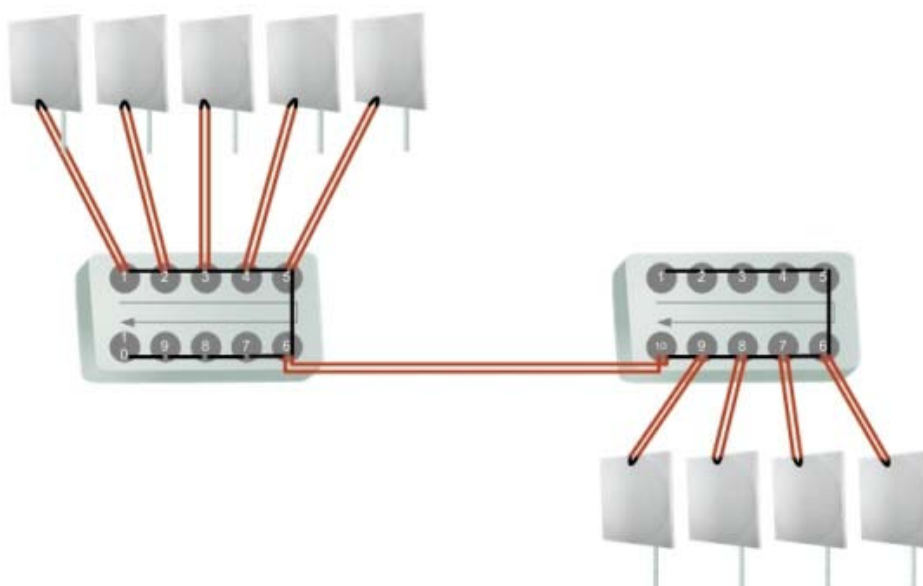

Figure 12-4: Cascading two HSS units
2. The next available SYNC port of the first HSS unit should be connected to SYNC 10 of the second HSS unit as shown in Figure 12-4. In the illustration, the next available port on the first HSS unit is SYNC 6.
3. The second HSS unit may be filled out with up to nine more ODUs in **reverse** order. That is, connect SYNC 9, SYNC 8, SYNC 7... as shown in Figure 12-4.
4. To add a further HSS unit: Connect the next available SYNC port from the second HSS unit in **descending order** (SYNC 5 in Figure 12-4) to SYNC 1 of the third HSS unit.
#### Two cascaded HSS units as shown in Figure 12-4